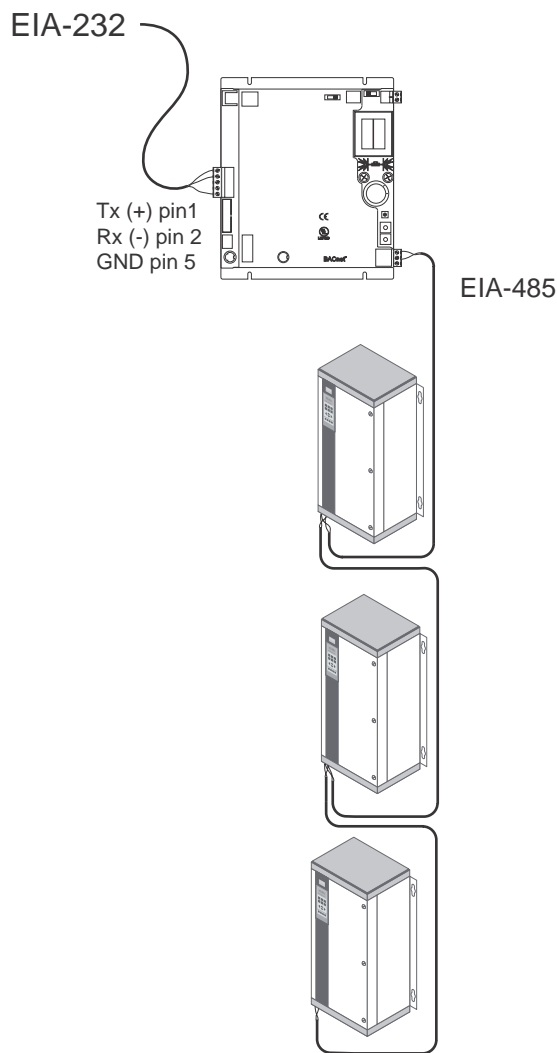

Figure 17. EIA-232 Network Connection
2. Wire EIA-232 network input cable to BACnet portal port 2 (see Figure 17). Tx (+) pin 1, Rx (-) pin 2, GND pin 5.